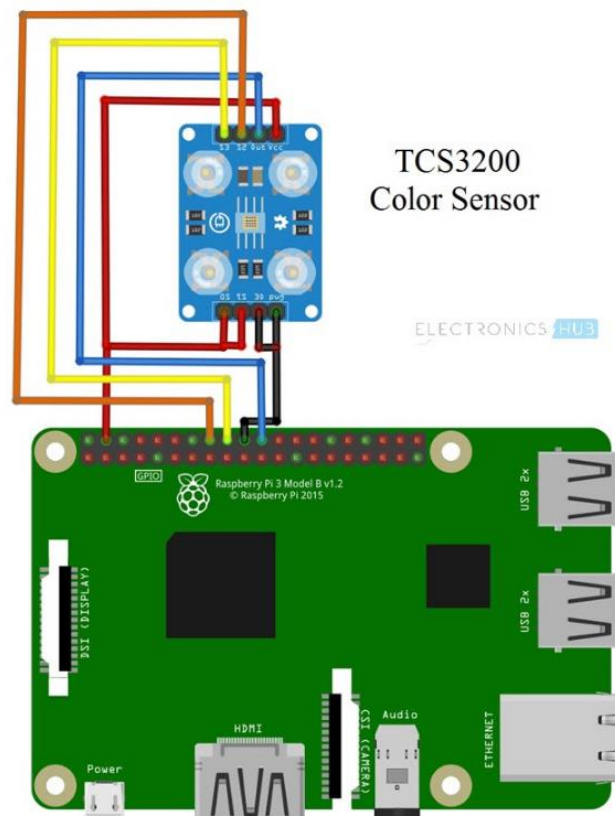

Figure 1: Circuit Diagram of Raspberry Pi Color Sensor TCS3200
- 1. Hardware Component:** The project uses the schematic from Figure 1 below that describes how to connect the TCS3200 color sensor to Raspberry Pi. TCS3200 Color Sensor has 8-pins and each one of them needs to get connected to the Raspberry Pi correctly. For the color sensor to work, the S0, S1 and V_{DD} pins of the sensor will be connected to the power source (+5V) of the Raspberry Pi. Then OE and GND pins of the sensor get connected to the GND of the Raspberry Pi. Finally, the S3, S4, and OUT pins of the sensor will be connected to GPIO23, GPIO24, and GPIO25 on the Raspberry Pi, respectively.